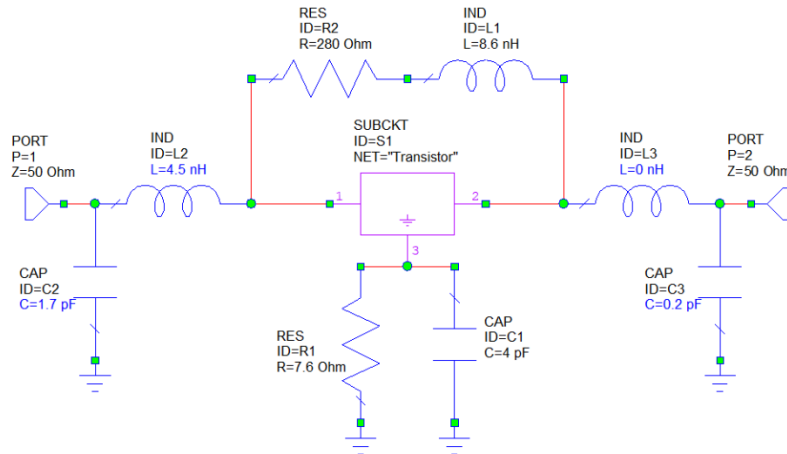

Fig. 4 Feedback amplifier with matching circuits.
The feedback amplifiers are, generally, quite wide-band and capable of operating from very low frequencies, often from DC, to high GHz. To ensure that the additional matching circuits do not disturb these properties, only very simple LC circuits with serial inductance and parallel capacitance are recommended to be utilized as shown in Fig. 4.
- Using Tune Tool, change the values of the components to reach reflections less than -10 dB in the widest possible frequency band. Because of a high number of potential tuning values, it may be beneficial to use the optimization procedure. It can be seen in Fig. 4, that the value of $L3$ is zero, hence it can be omitted from the final design.